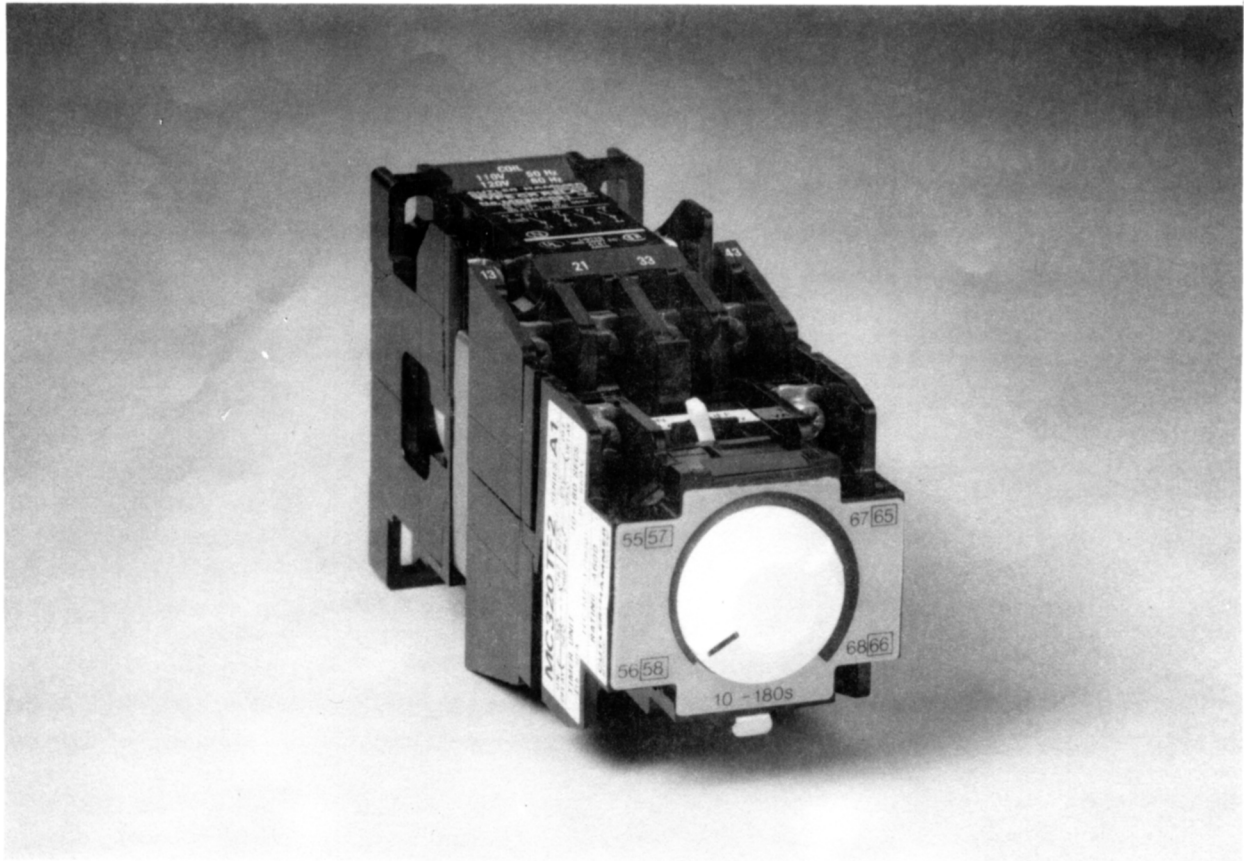
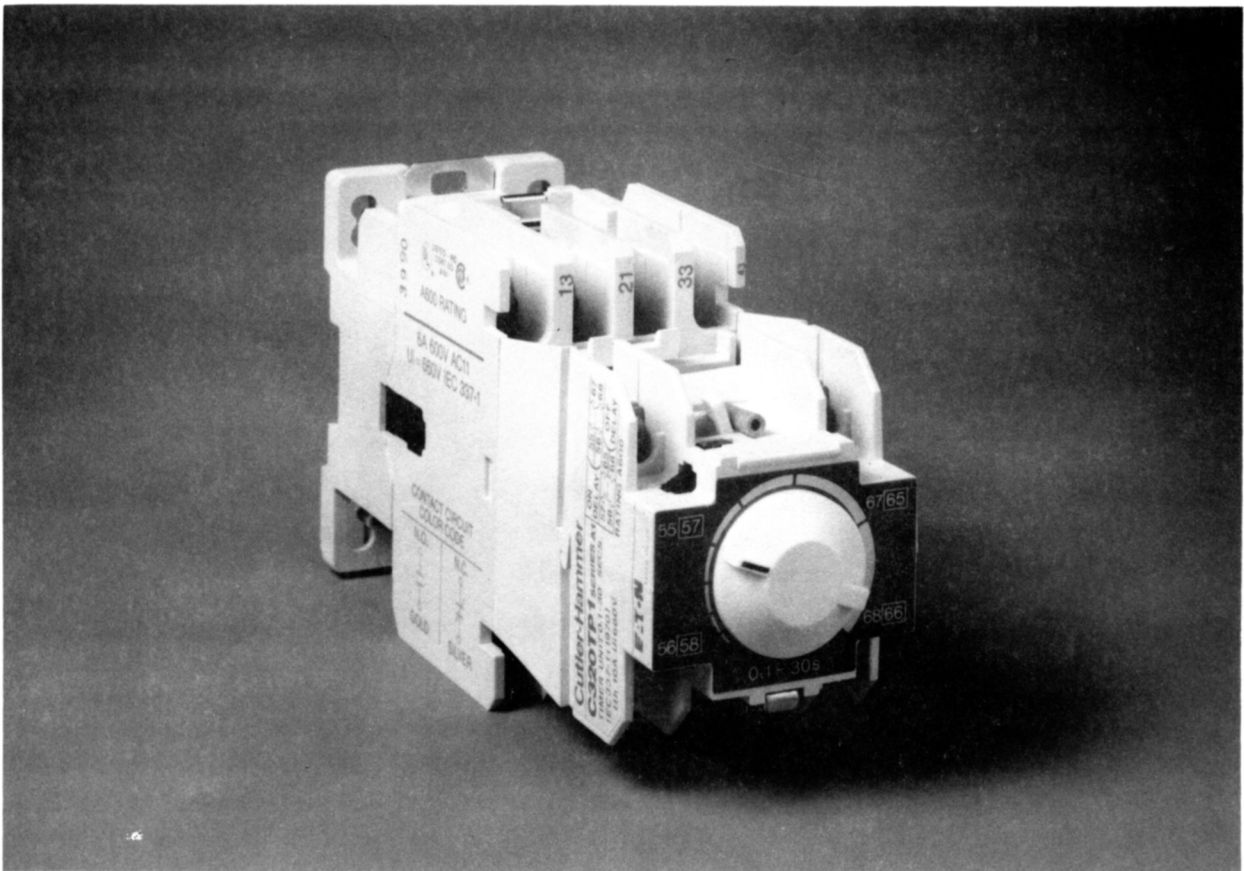

Figure 1
Figure 2
4. The ICR and transition timing relay assembly has been changed. The old style is black in color (fig. 1) and the new style is light grey and larger in size (fig. 2). The mounting holes for the two